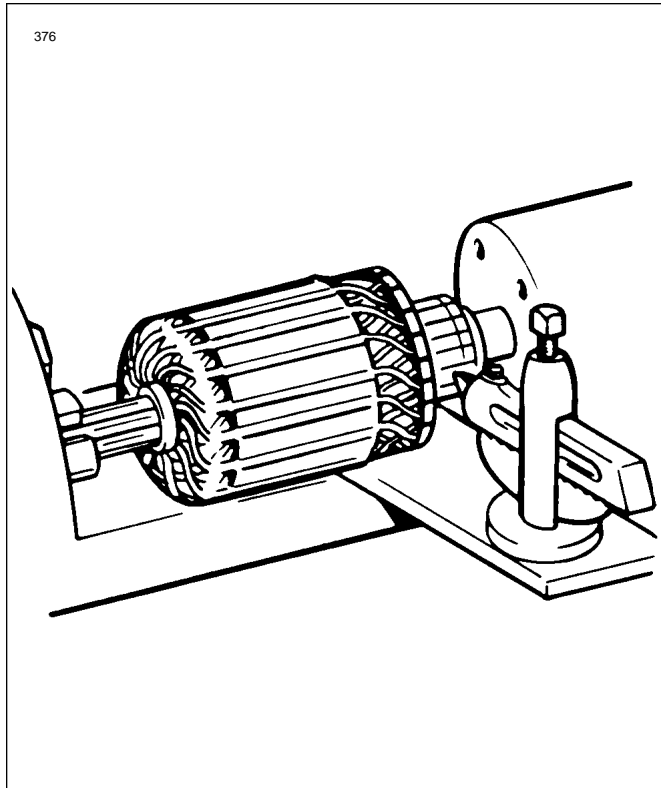

Figure 11-20 Turning Motor Commutator
a. Check the commutator for uneven wear, excessive glazing or evidence of excessive arcing. If only slightly dirty, glazed or discolored, the commutator can be cleaned with 00 or 000 sandpaper. If the commutator is rough or worn, it should be turned in a lathe. Refer to Figure 11-20. The armature shaft should be inspected for rough bearing surfaces and rough or damaged splines.